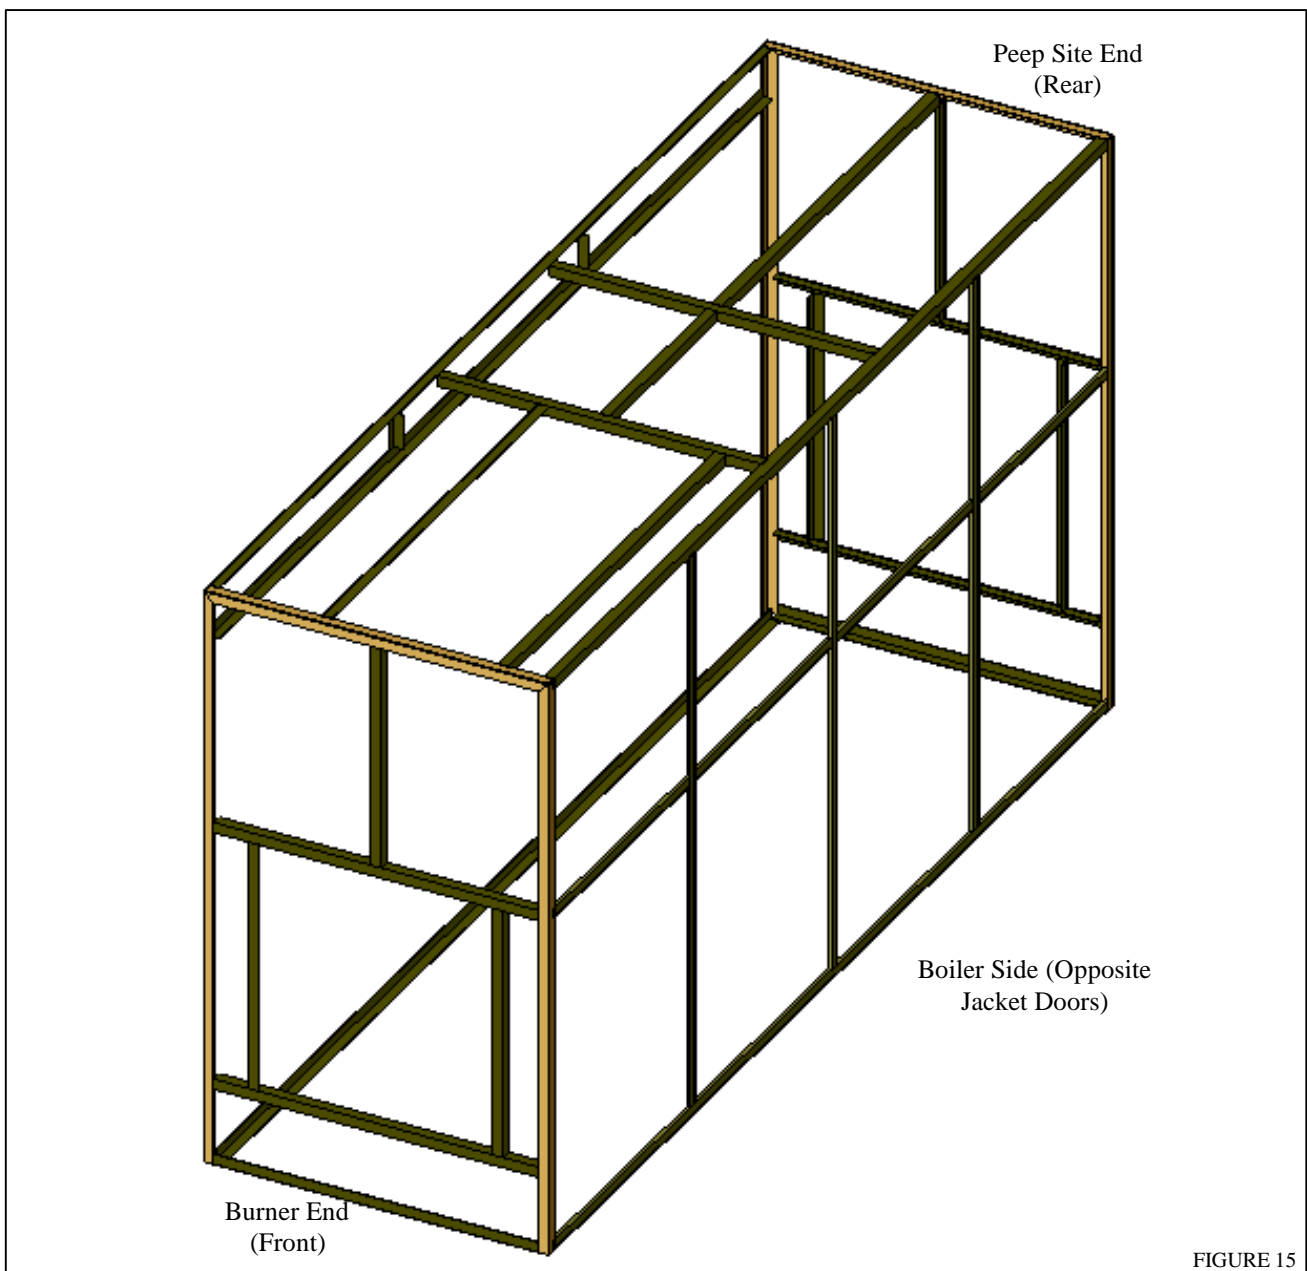

FIGURE 15
- 5.2** You now have the basic “box” of the jacket frame on the boiler. See to figure 15. Install jacket filler panel framework on the jacket door side of boiler. Also refer to Drawing B-21239.